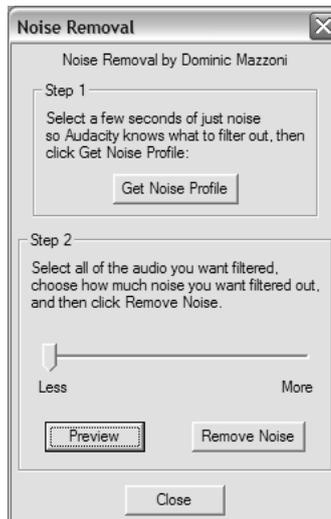

Figure 7: Noise Removal Window
Removal” window. (See Figure 7)
2. Select “Noise Removal” from the “Effect” drop down menu to bring up the “Noise Removal” window. (See Figure 7)